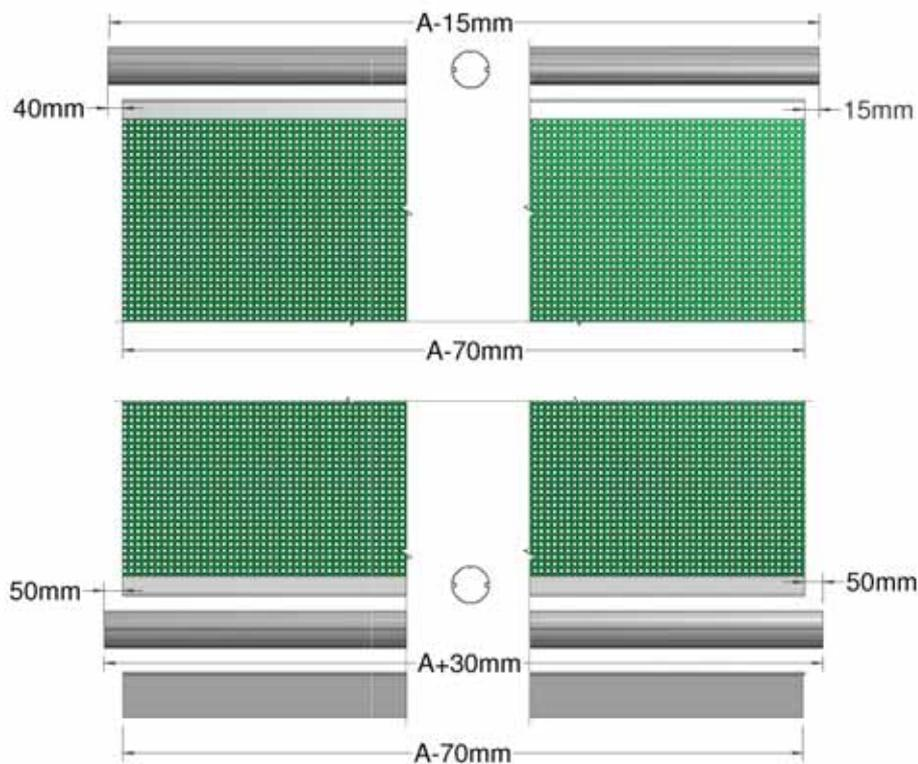

Figure 5a, Standard Cutting Lengths of Tubes and Fabric
4. Cutting lengths (Figure 5a and 5b):